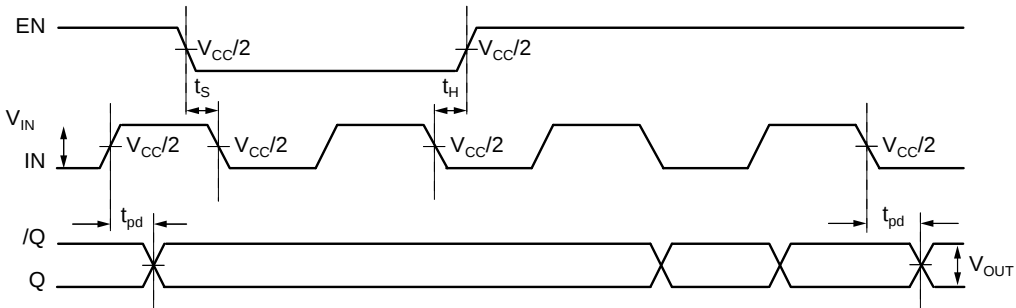

Figure 1a. Timing Diagram
- See "Timing Diagrams," Figure 1a.